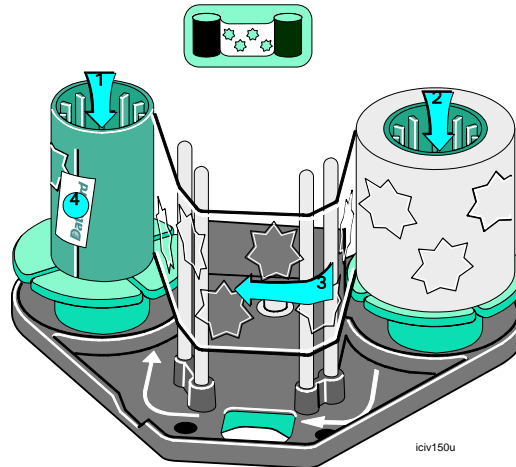

Figure 4-12: Load topcoat in the cartridge
- 4 Remove the empty spool from the supply spool holder and press the empty spool into place on the take-up spool holder of the cartridge (step 1 in Figure 4-12). Make sure the ribs inside the spool align with the grooves in the spool holder.
- 7 Place the full supply roll on the right holder as you face the open side of the cartridge (step 2 in Figure 4-12). Make sure the supply will unroll counterclockwise , as shown.
- 10 Wind the supply material in front of the guides and around the take-up spool (step 3 in Figure 4-12). Make sure that the material will wind counterclockwise .
- 11 Use the label to secure the supply material on the take-up spool. Press the label onto the spool to secure the supply material (step 4 in Figure 4-12).